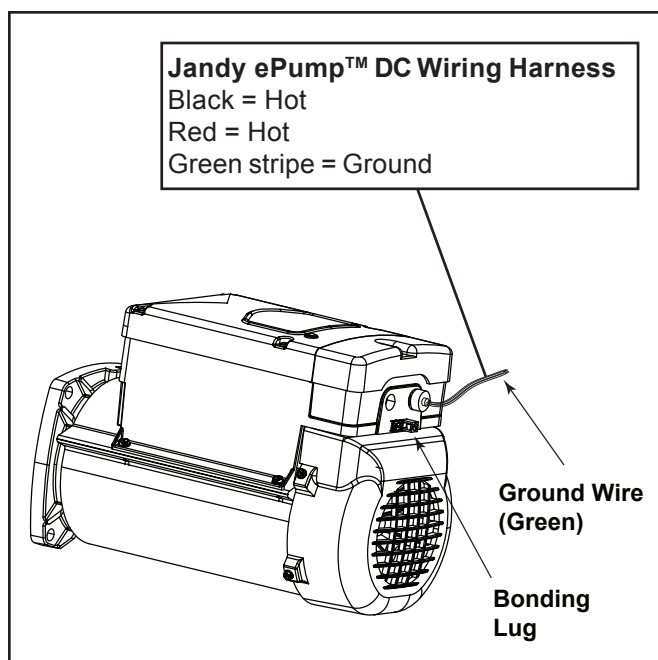

Figure 8. Jandy External Bonding
6. Permanently ground the motor using the green ground wire, as shown in Figure 8. Use the correct wire size and type specified by National Electrical Code (NEC) and the Canadian Electrical Code (CEC). Make sure the ground wire is connected to an electrical service ground.
7. Bond the motor to the pool structure in accordance with the National Electrical Code (NEC) and the Canadian Electrical Code (CEC). Use a solid No. 8 AWG or larger copper conductor. Run a wire from the external bonding lug to the pool bonding structure, as shown in Figure 8.
8. Connect the red and black wires of the pump to the two load side connections on the filter pump relay as shown in Figure 8.